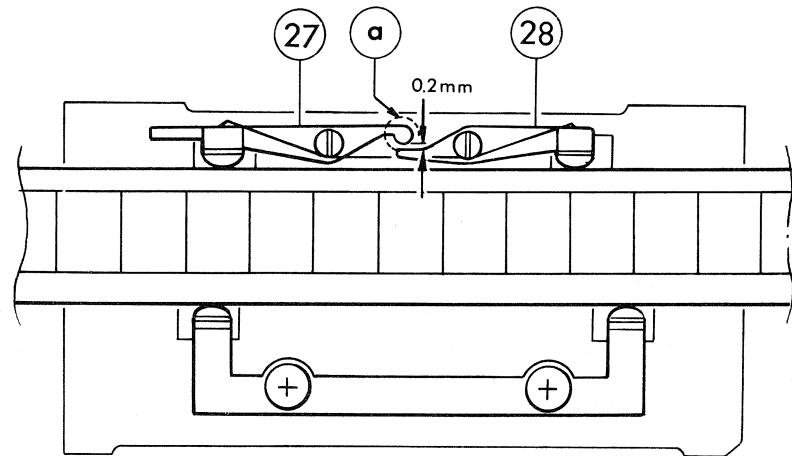

Fig.9
2. Make sure that the spring tension of ⑩ at ⑦ and ⑧ is 40 ~ 50 g and that ⑦ and ⑩ have less slackening (play) and can move smoothly (lightly). Furthermore, see to it that the gap between ⑦ and ⑧ is 0.2 mm (see Fig. 9-a).
3. See to it that Albania grease is applied to ①, ② and ③, and confirm that ① rotates smoothly after installation, enabling framing adjustment.
1. Apply the lateral guide fixing gauge (P087) to ⑮ in order to install ⑯.
2. Apply the fixed guide fixing gauge (P088) to ⑮ in order to install ⑯.
3. Install ⑰ and ⑱, apply the film as shown in Fig. 9, and adjust by bending the "a" section with the film lateral guide adjusting screw driver (P028), so that the space in-between is 0.2 mm.
4. Measurements of the spring tension of ⑲ should be 40 ~ 50 g by using a dial tension gauge (C063).